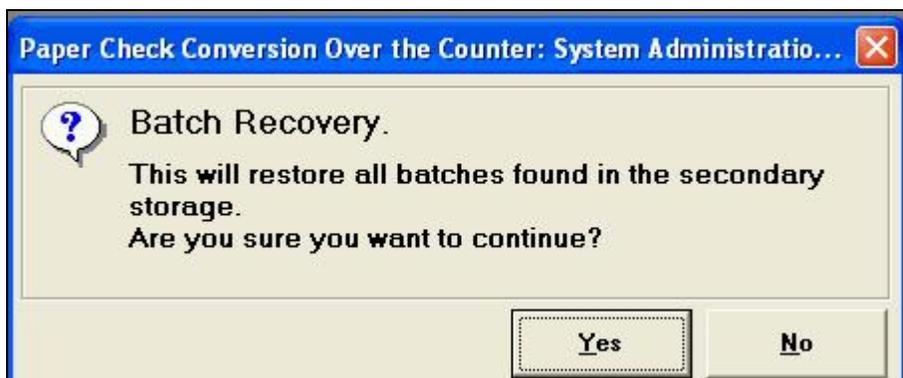

Figure 3.33
15. Logon to the SAT. Select the Batch Recovery Icon , or from the menu at the top of the screen, select **'File'**, then **'Batch Recovery...'**. The following message will appear: (Figure 3.33)